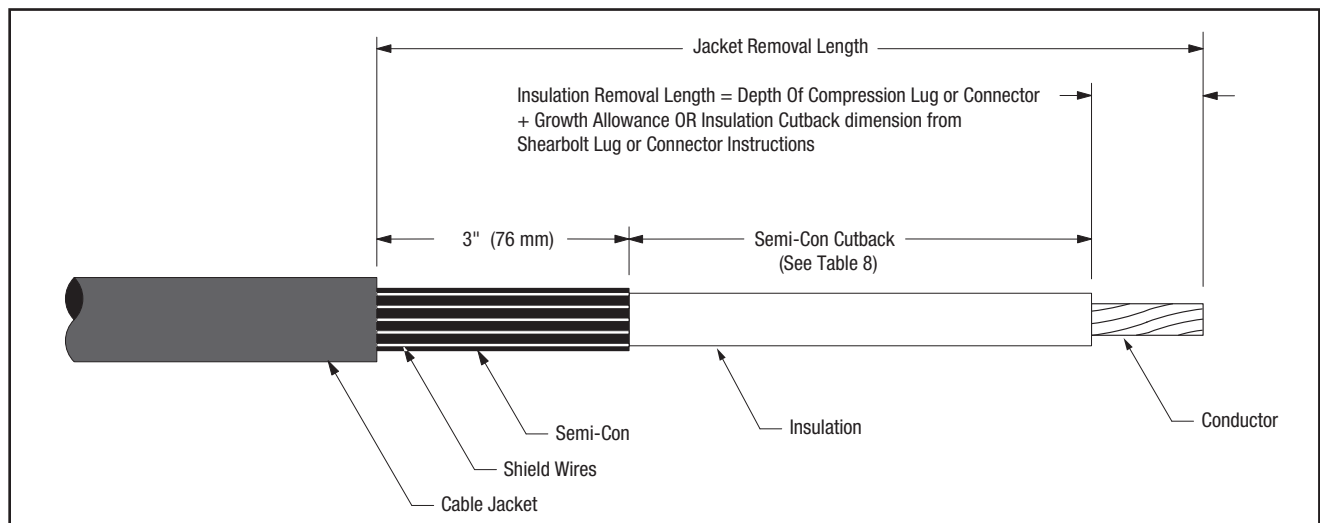
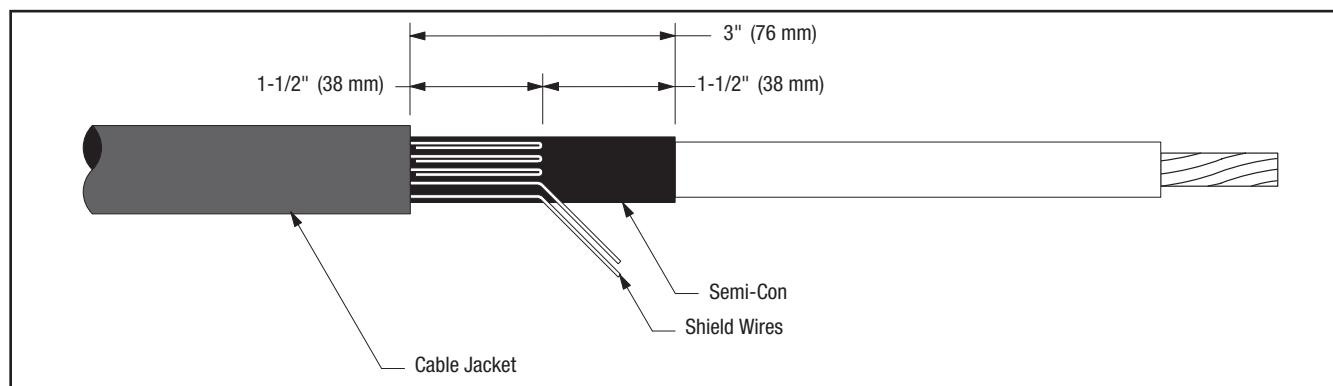

Figure 8
Figure 9
- 7.2 Prepare cable using dimensions shown in Figure 8 and Figure 9. **BE SURE TO ALLOW FOR DEPTH OF TERMINAL LUG OR CONNECTOR**
7.5 Bend leading 1-1/2" (38 mm) of exposed shield wires back upon themselves to jacket edge (Figure 9).